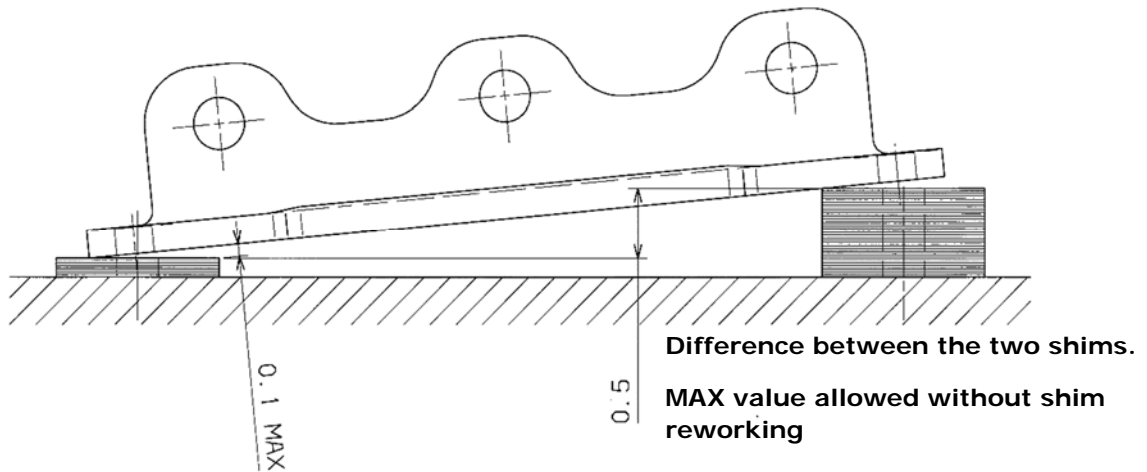

Figure C4 – Tail alignment check
- The planarity tolerance of the damper/bearing, is 0.1 mm according to Figure C4.